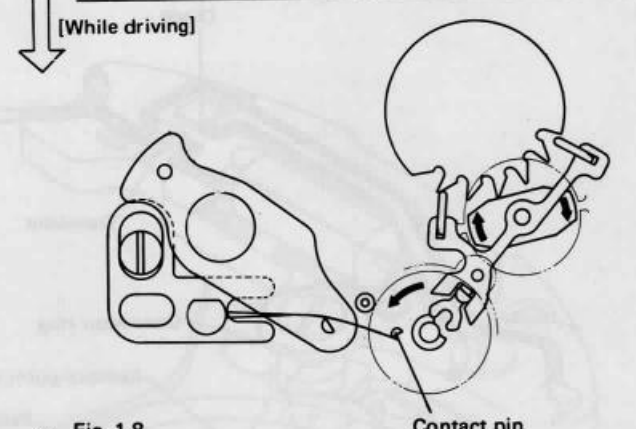

Fig. 1-8
- (3) When the pallet is actuated, it imparts an impact to the roller jewel (as in Fig. 1.8), and rotates the balance; at the same time, the pallet jewel pushes the slope of the escape wheel's tooth and rotates the escape wheel.